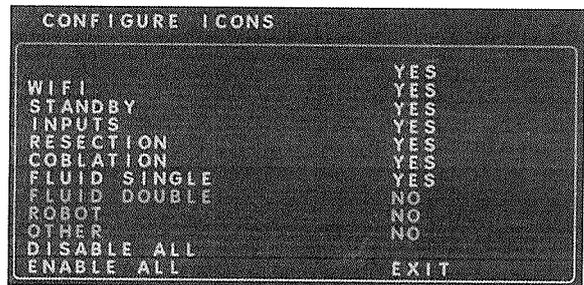

Figure 40. Configure Icons
2. Navigate to **CONFIGURE ICONS** and press **Select** to select it. The CONFIGURE ICONS screen opens (Figure 40). Each icon listed can be configured to **YES** (display) or **NO** (do not display).